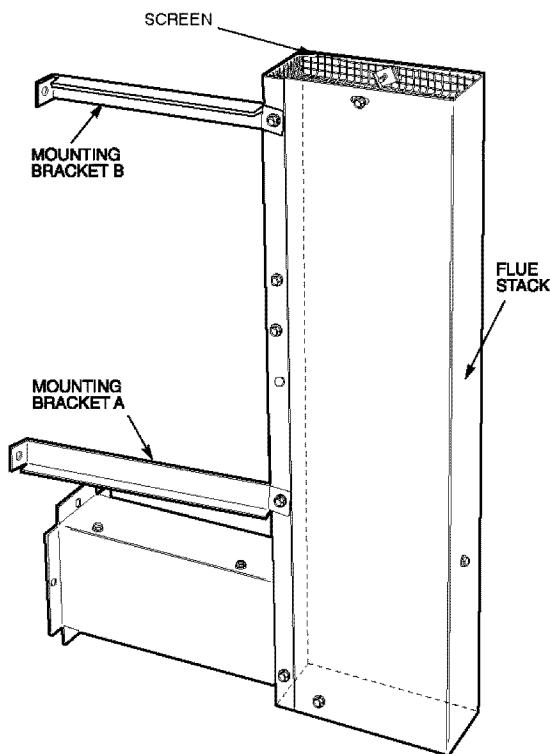

Figure 4
4. Remove the two screws in the center post that are attached to the top cover. Remove the second screw from the bottom on the center post. Save all screws. See Fig. 4.